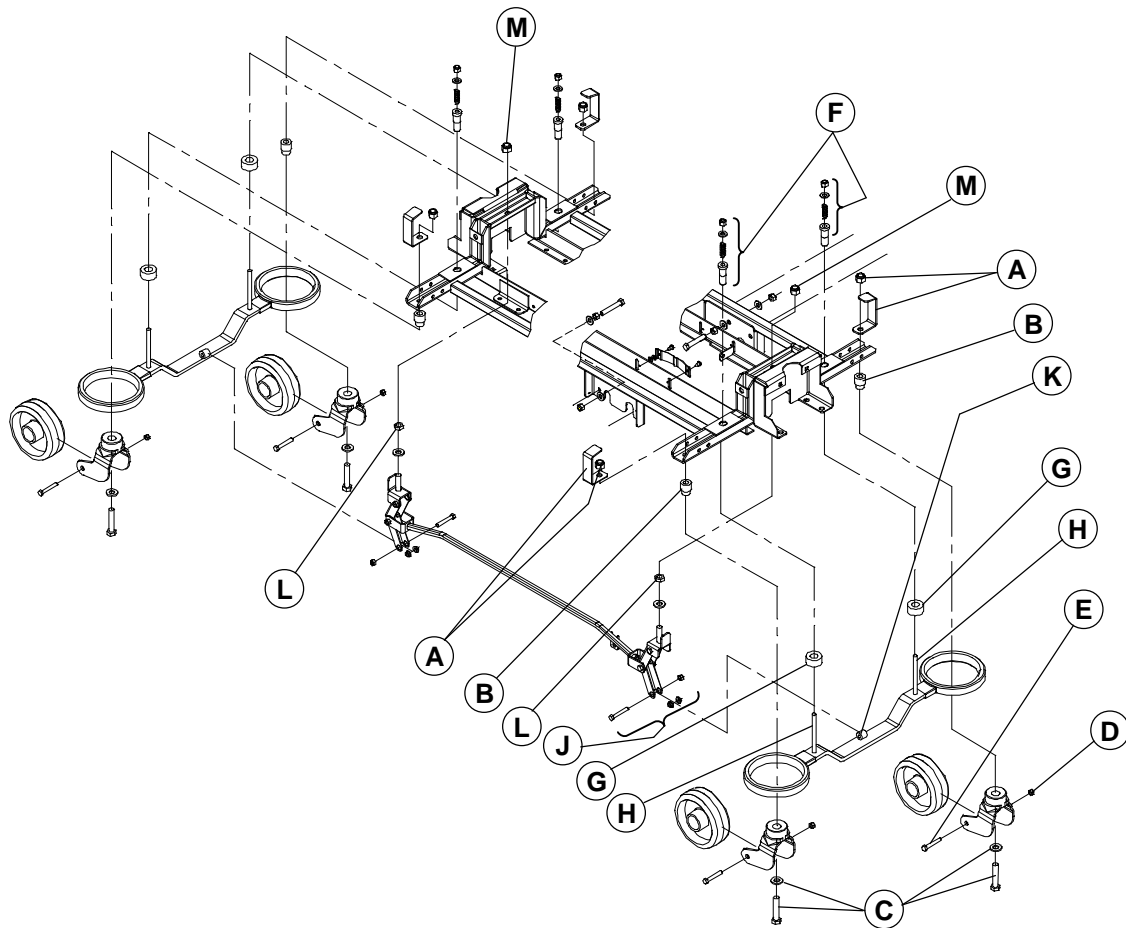

Figure 3.9
Unless otherwise stated, reference letters in the following procedure refer to figure 3.9 on page 35.
6. Using a 3/4" socket and ratchet and a 3/4" angled socket and ratchet, remove the locknut/base hood support (A, fig. 3.9, page 35), caster adjusting sockets (B, fig. 3.9, page 35) and washer/bolt (C, fig. 3.9, page 35), holding the caster assembly to the base frame. Remove the defective caster.
Reaching the bolt (C) may be difficult without the adequate tool (angled socket). Removing the wheel will clear access to this bolt. Use a 5/8" wrench and an 11/16" socket and ratchet to remove the nut (D, fig. 3.9, page 35) and bolt (E, fig. 3.9, page 35) holding the wheel to the caster horn and remove the wheel.